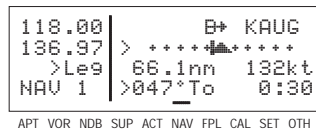
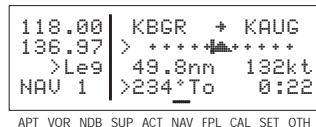

Figure 4-146
Figure 4-147
The NAV 1 page is the primary navigation display, and is shown in figure 4-146. In normal flight, you will probably want to view this page more often than any other. A NAV 1 page displays the following information:
Line 1: The active navigation leg. For Direct To operation this consists of the Direct To symbol, **D→**, followed by the active Direct To waypoint identifier (figure 4-146). For the leg of a flight plan this consists of the "from" waypoint identifier and the active "to" waypoint identifier (figure 4-147). An arrow **→** precedes the active waypoint identifier.
Line 2: A cyclic field which can either be (1) a course deviation indicator (CDI) that graphically displays left and right deviation from desired track (figure 4-147), or (2) The direction to fly to intercept the